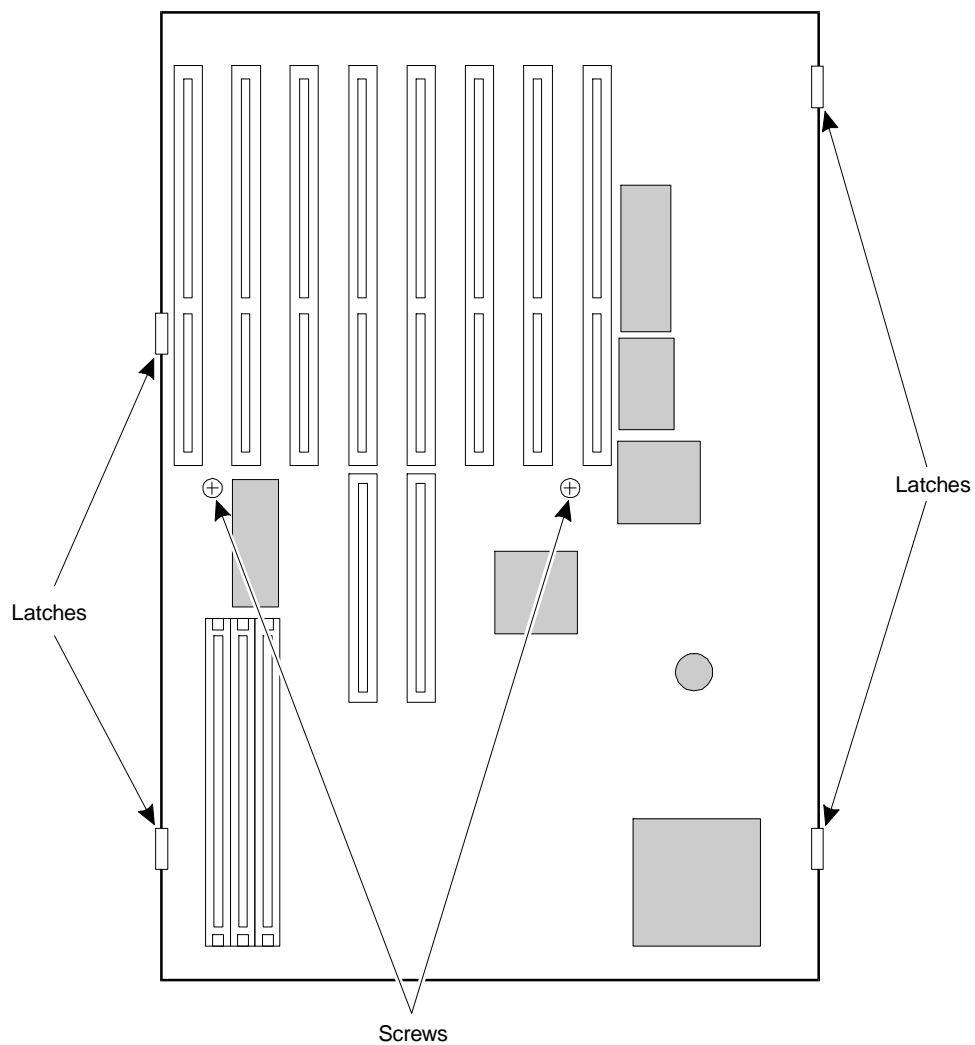

Figure C-7. Screw and Latch Locations on the System Board
5. Replace the mounting screws in the locations shown in Figure C-7.